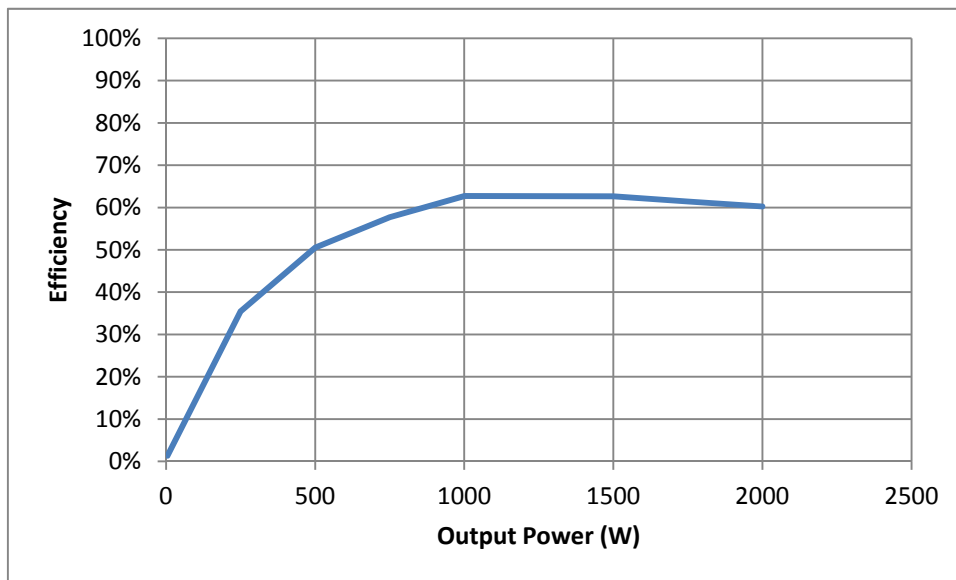

Figure 9 TIDA-00762 Efficiency with bq51003
- Figure 9 shows the efficiency across the power range with the bq51003EVM-764 with TDK coil WR222230. This is the total system efficiency including the transmitter, coils and receiver. Note recommended output power is 1W.